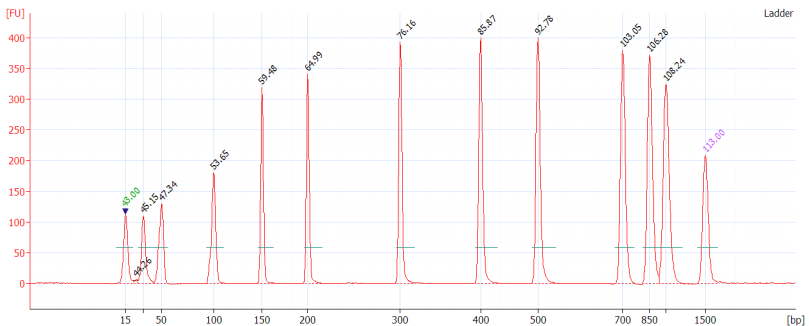

Figure 8: Ladder electropherogram (Bioanalyzer)
- Verify that the ladder plot profile looks similar to Figure 8 below and contains 13 peaks with the lowest at 15 bp and the highest at 1,500 bp (these are the markers that will be present in every sample read) with a flat baseline (see Figure 8).